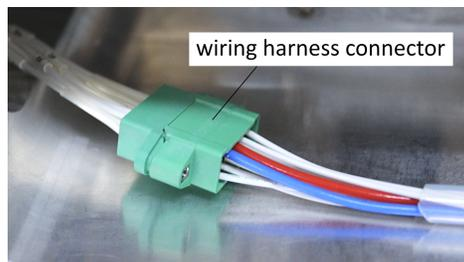

Figure 28. Wiring harness connectors.
1. Reconnect the green wiring harness connectors. See Figure 28.